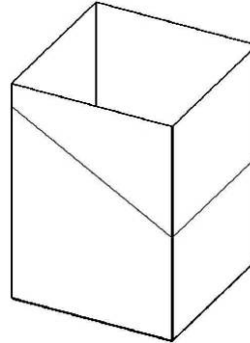

Figure 45 - Support Box
1. Mark a line on the side of the Cathedral Ceiling Support Box to correspond to the line of the roof pitch. Allow for the Support Box to protrude below the finished ceiling a minimum of 2 in (5 cm). See **Figure 45 - Support Box**.